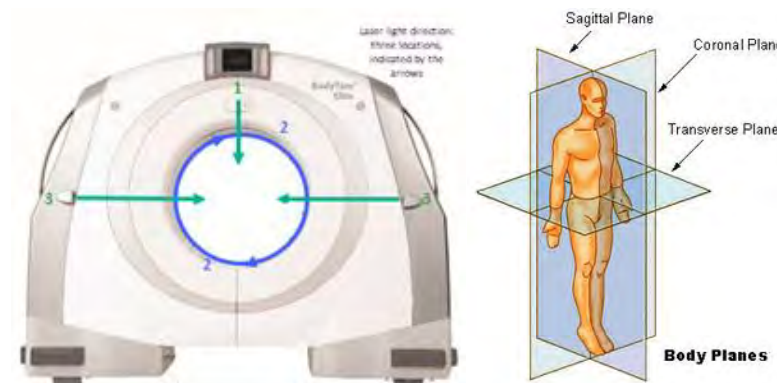

Figure 5: Laser aperture's direction
There are four lasers used with the BodyTom Elite system as indicated in Figure 5 on page 58: 1 laser (Sagittal) at position **1**, 1 laser (Axial or Transverse) at position **2** (which is mounted internally and spins within the system's bore), and 1 set of external lasers (Coronal and Transverse/Axial) at position **3**.
- Lasers **1** and **3** (see Figure 5):
- Laser **2** (see Figure 5):